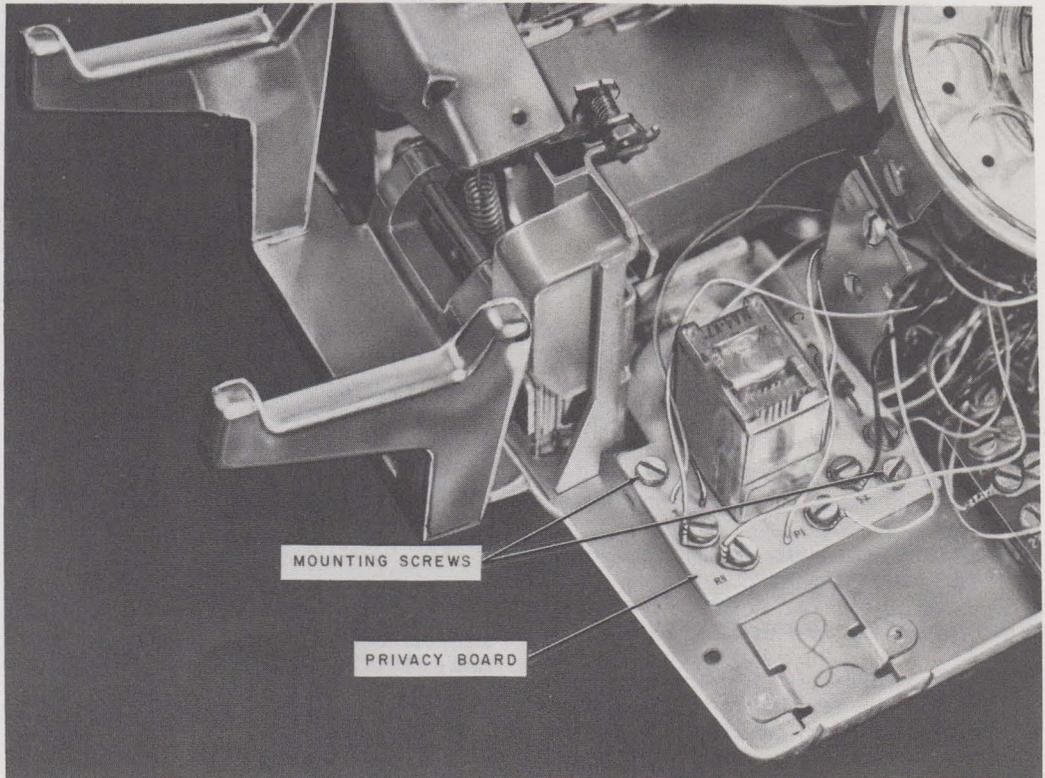

Fig. 3—Privacy Circuit Board Mounted in Telephone Set
(1) Mount privacy circuit board on the two standoffs located at the left front of the telephone set base (Fig. 3) using mounting screws furnished with the telephone set.
(2) Refer to Table C for connections.
(3) To test privacy circuit refer to 3.04.